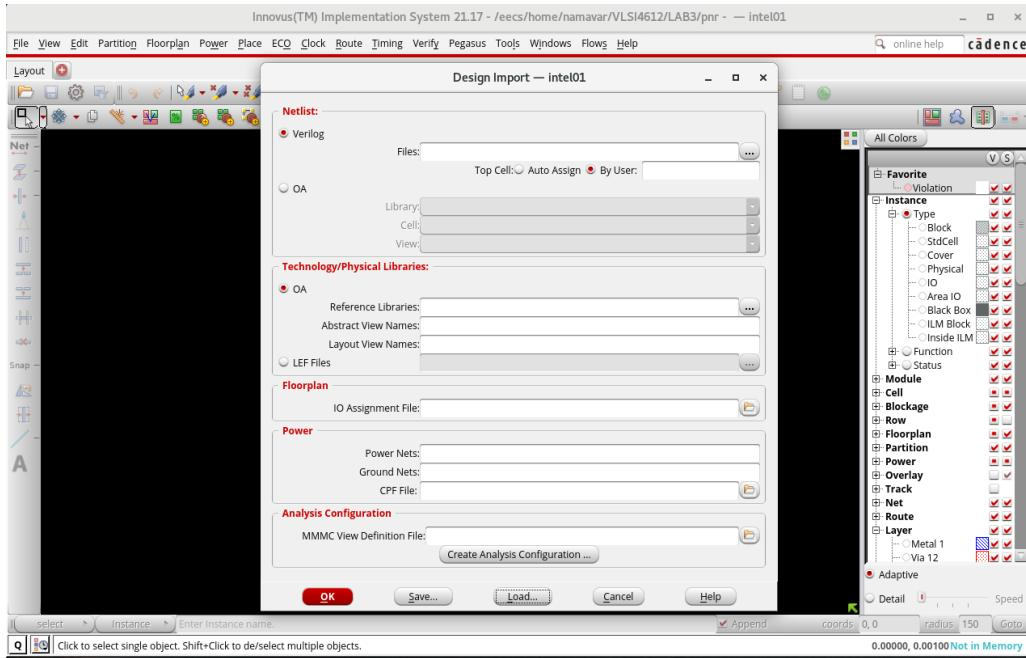

Figure 9: Design Import window in Cadence Innovus.
2. The **Design Import** window will appear, as shown in Figure 9.